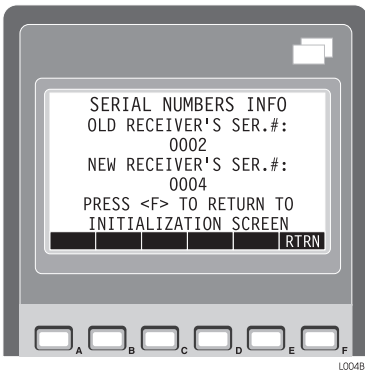

Figure 4.16: Serial Numbers Info Screen
Figure 4.15 is just for information. The synchronization process completed successfully. Press the **F (OK)** and the **C** key to access the Serial Numbers Info screen (Figure 4.16).